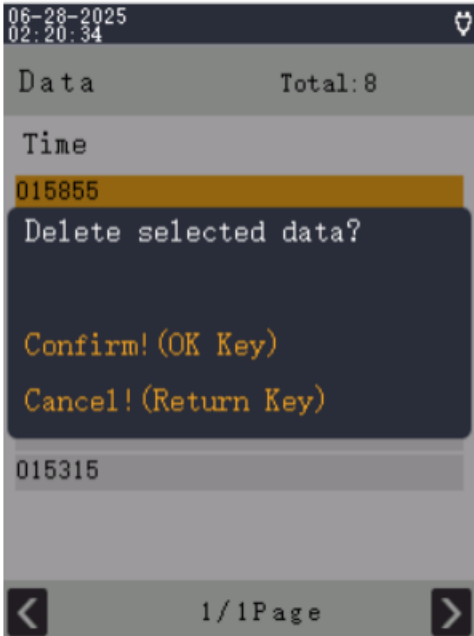
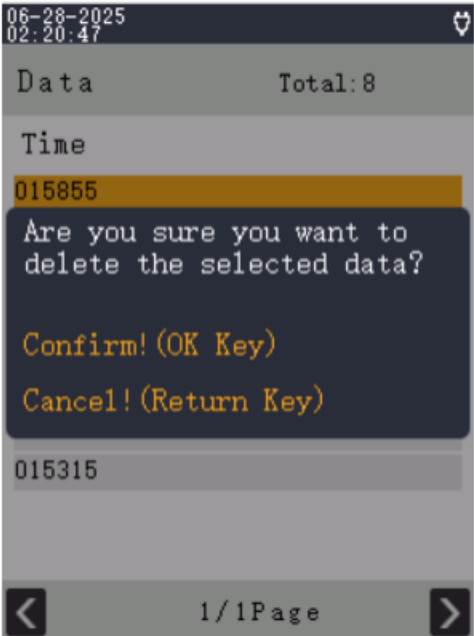

Figure 6.21
Figure 6.22
- 3) Delete a Group: Select a record and press Delete. Confirm twice to delete (Figure 6.21 and Figure 6.22).